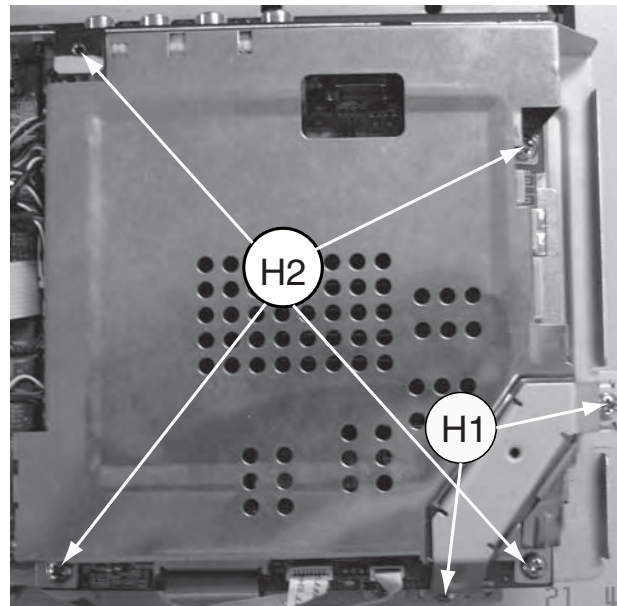

Figure 9
- 1) Loosen 2 screws on the bracket "H1" and 4 screws on the ESD cover "H2" as shown in figure 9.